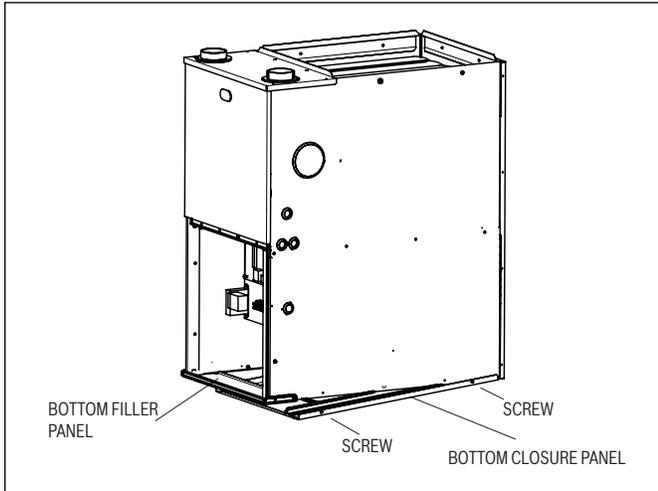

Figure 7 Removing bottom closure panel
1. Tilt or raise furnace and remove the screw holding bottom filler panel. (See Figure 7.)